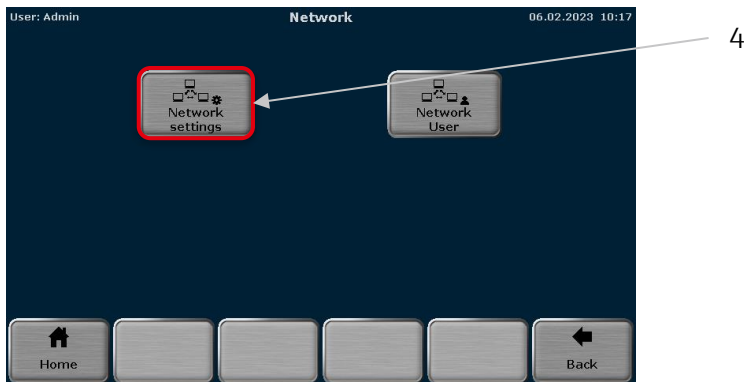

Fig. 4 Biometra thermal cyclers network screen
- 4 Go to the *Network settings* screen (Fig. 4).